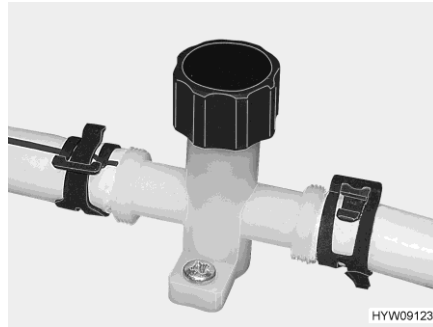
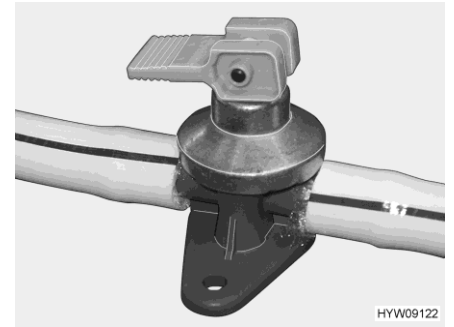

Fig. 125 Drain cock (water pipe)
Fig. 126 Drain cock (Alde boiler)
- Close the drain cocks. To do so, turn the cap (Fig. 125) in a clockwise direction and set the rocking lever (Fig. 126) in a horizontal position.
- Open the drain cocks. To do so, turn the cap (Fig. 125) in an anticlockwise direction and set the rocking lever (Fig. 126) in a vertical position.